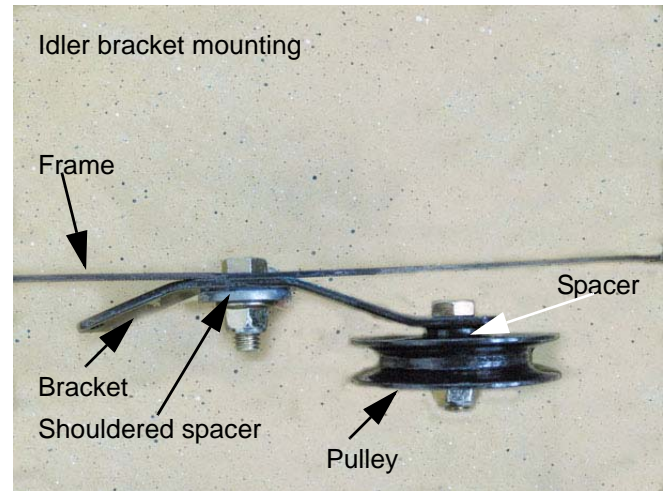

Figure 4.3
1.3. Idler pulley and bracket. See Figure 4.3.